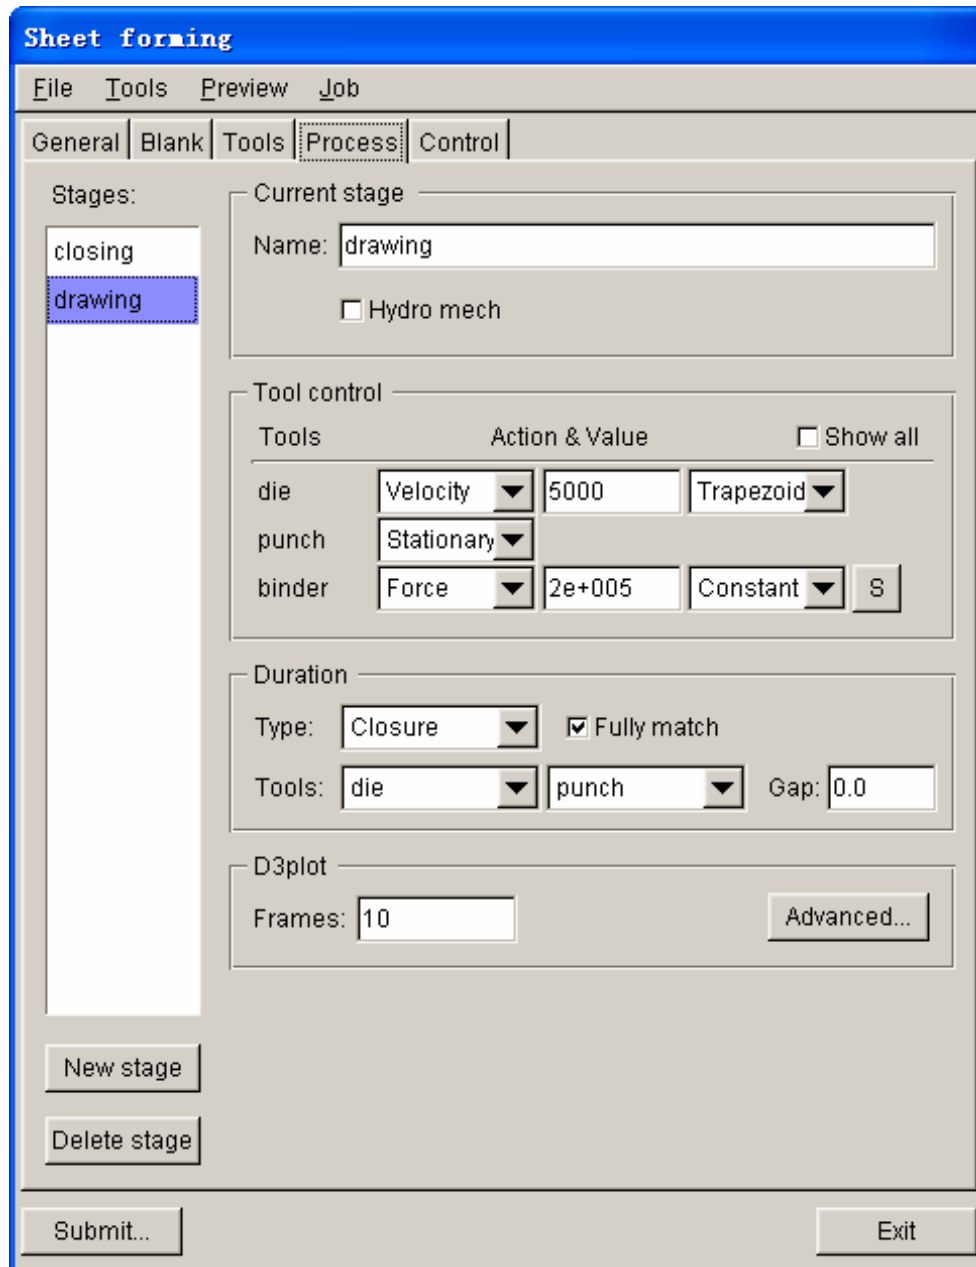

Figure 1.35 Drawing process interface
3. Select **drawing** process from the list located at left side of the interface as the current process. See Figure 1.35.
4. Verify the default setting of **drawing** stage is similar to Figure 1.35.